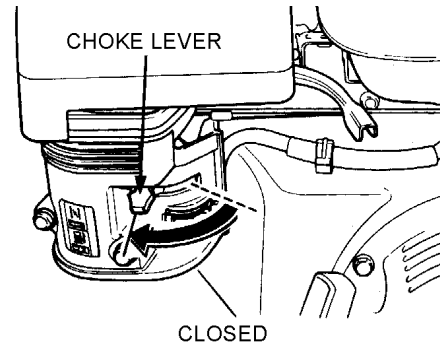

Figure 13. Engine Choke Lever (Closed)
3. Place the choke lever (Figure 13) in the "CLOSED" position if starting a cold engine.